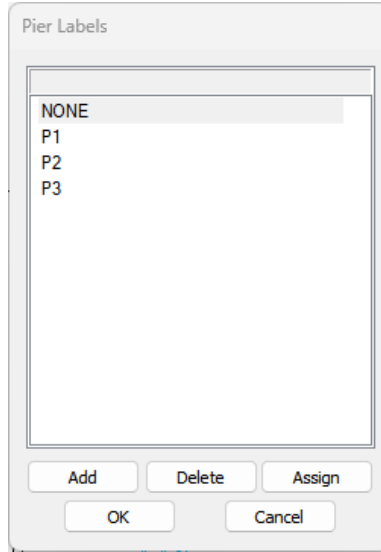

FIGURE 16-1
- Click the **Add** button to generate *P2* and *P3*, as shown in **FIGURE 16-1**.